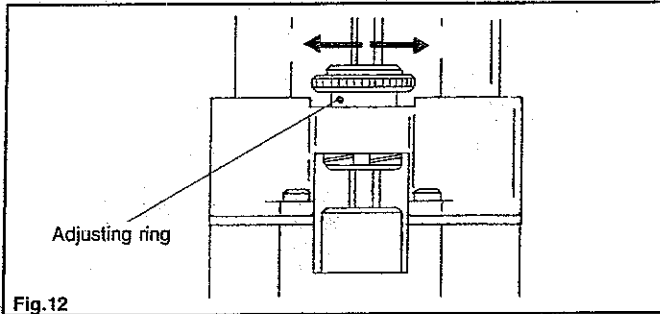

Fig.12
15. Adjusting the tightening depth (Fig. 12)